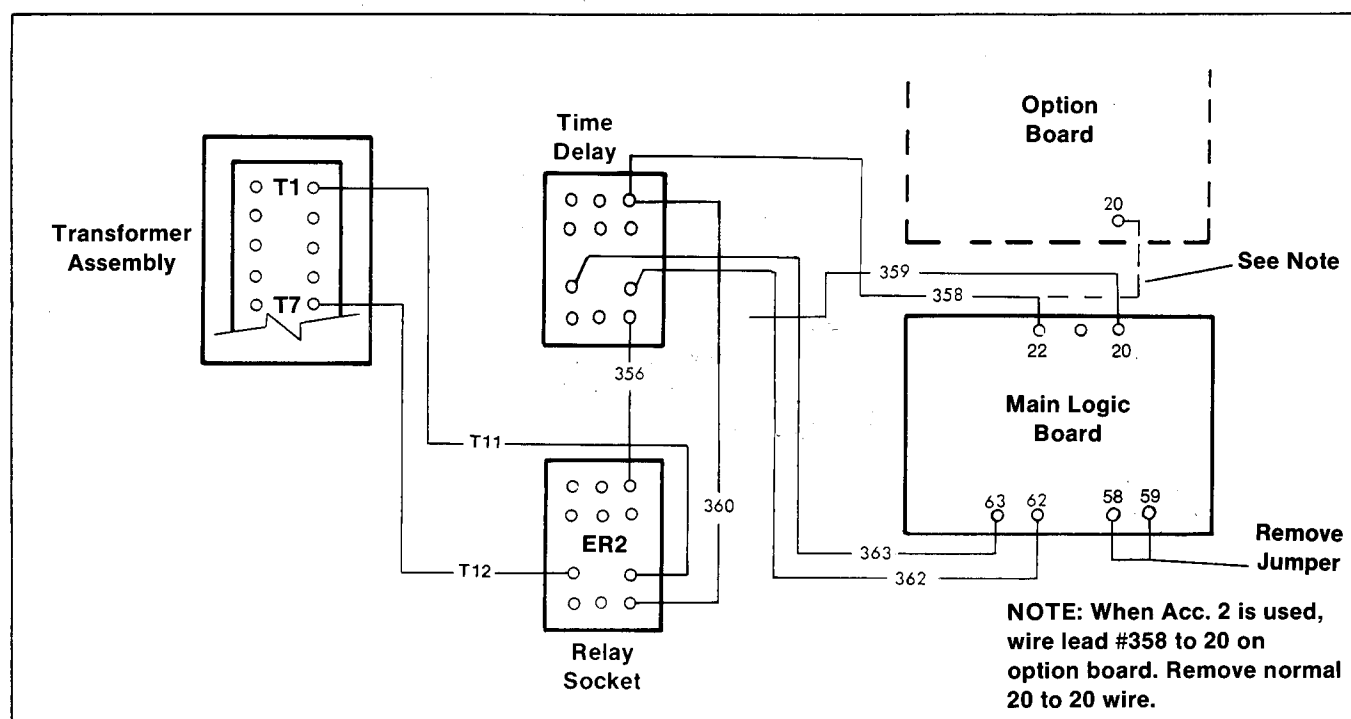

Figure 34. Cranking Limiter Connections
- **Acc. 30-A, B Cranking Limiter** is used with generator set without a cranking limiter in its controller. See Figure 34 for connections.